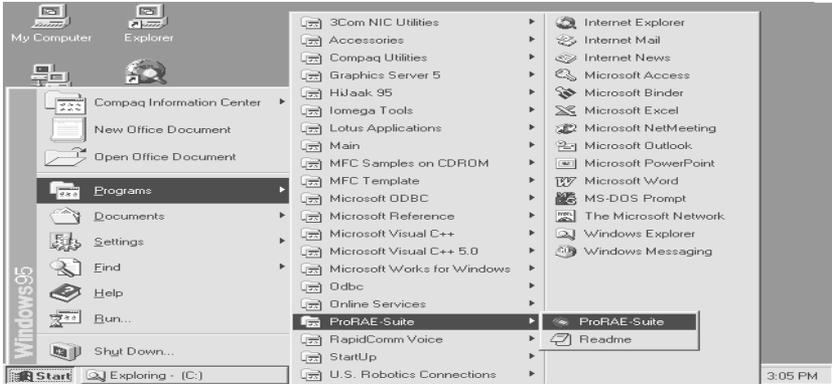

Figure 5.2 Start Menu
**Programs** submenu, then click the **ProRAE-Suite** menu item to display the **ProRAE-Suite** submenu. There are two submenu items under the **ProRAE-Suite** submenu: **ProRAE-Suite** and **Readme**, as shown in Figure 5.2. Click the **ProRAE-Suite** submenu item to start the ProRAE-Suite software.